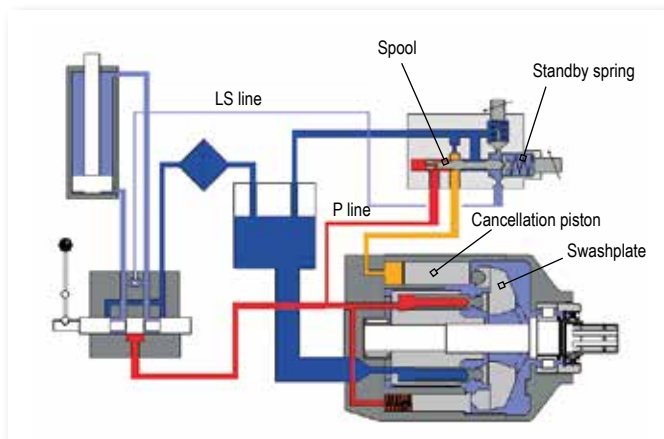

**Figure 2 - Zero displacement**
- ▶ To change displacement from maximum to zero (complete flow cancellation), the swashplate angle goes from  $\alpha$  max (Fig. 1) to  $\alpha$  min (=0) (Fig. 2).